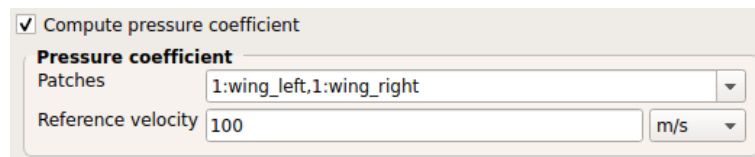

Figure 11.21: TCFD – SIMULATION: Run time evaluated quantities. Pressure coefficient.
- The checkbox "Compute pressure coefficient" (figure 11.21) enables calculation of the pressure coefficient C_p (mainly for the purposes of the external aerodynamics). The C_p is evaluated at given patches during the calculation for each iteration/time step and is written to the results, so it is possible to view the field in the TCAE Manager (see 4.4.1).